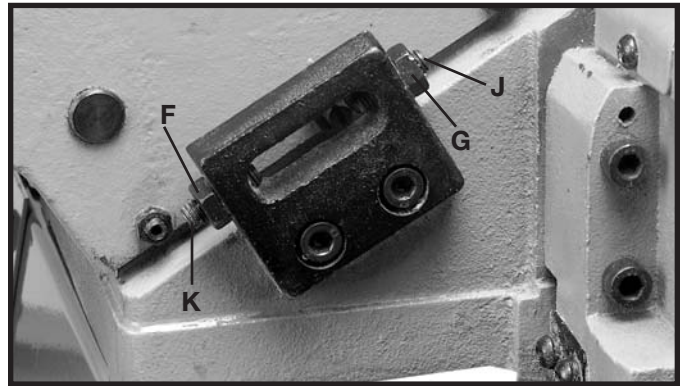

Fig. 37
Positive stops are provided to limit the height and depth of the infeed table. To adjust the stops, loosen two locknuts (F) and (G) Fig. 37, and turn the two adjusting screws (J) and (K) as required. Then retighten the locknuts (F) and (G). A good suggestion is to set the upper positive stop (J) for your finish or final cut. This means that you will be able to rapidly set the infeed table for a finish or final cut without checking the scale and pointer. Also the lower positive stop (K) can be set for the maximum 1/2" depth of cut or if you desire to limit the depth of cut, adjust the stop screw (K) accordingly.